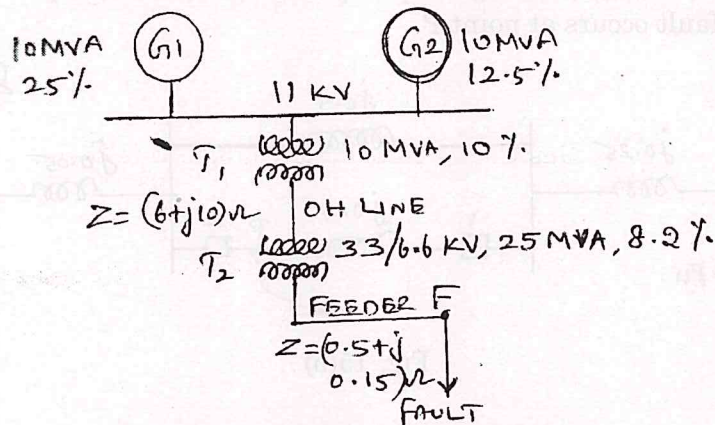

Fig. 13 (b)
- (b) For the radial network shown in Fig. 13 (b), a three phase fault occurs at point F. Examine the fault current.